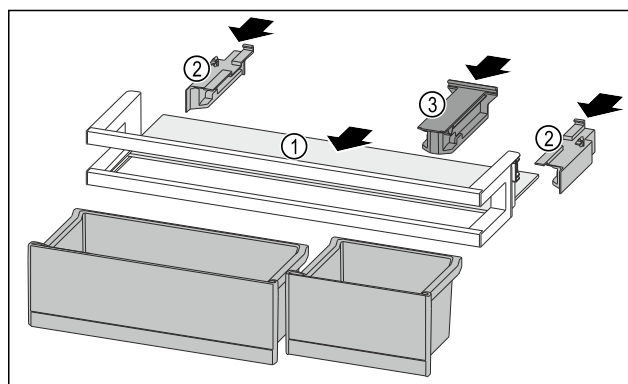

Fig. 125
- Push the shelf Fig. 125 (1) into the side cutouts.
- Insert the side parts Fig. 125 (2).
- Insert the retaining part Fig. 125 (3).